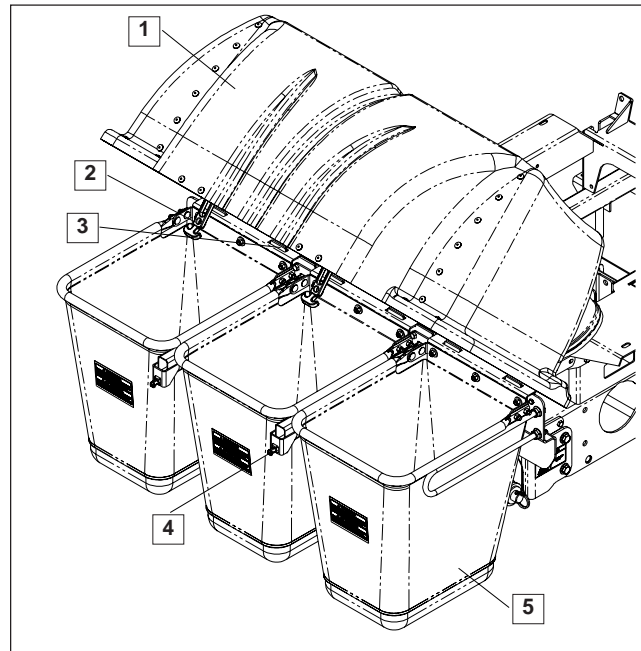

**FIGURE 4**
7. Place the hood assembly on to the hitch assembly. Place both hood hinges between the upper hitch mounts on the hitch assembly. Be sure that the rubber seal is on the inside of the hood. Place the (2) friction washers between the hood hinge and the upper hitch mount. Place (2) 990563, 3/8 x 1 bolt thru the hinge and mount. Secure with (2) 976979, 3/8 nyloc nut. Figure 4.
8. Open the hood and secure the (2) springs to the bolts on the hood assembly and the hitch assembly. Figure 4.